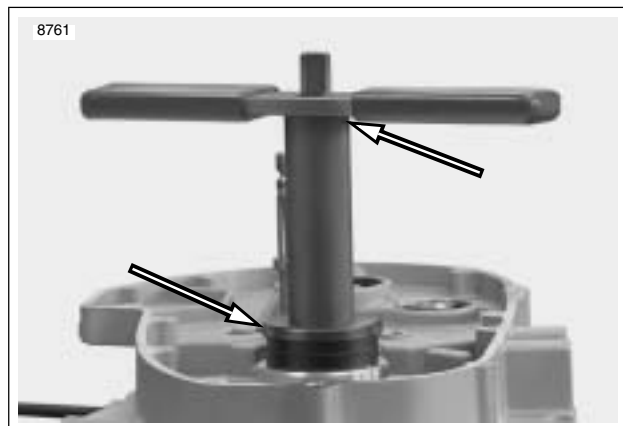

Figure 3-155. Sprocket Shaft Seal/Spacer Installer (Part No. HD-42579 and B-45676)
10. See Figure 3-155. Use SPROCKET SHAFT SEAL INSTALLER (Part No. B-45676) to install sprocket shaft seal.